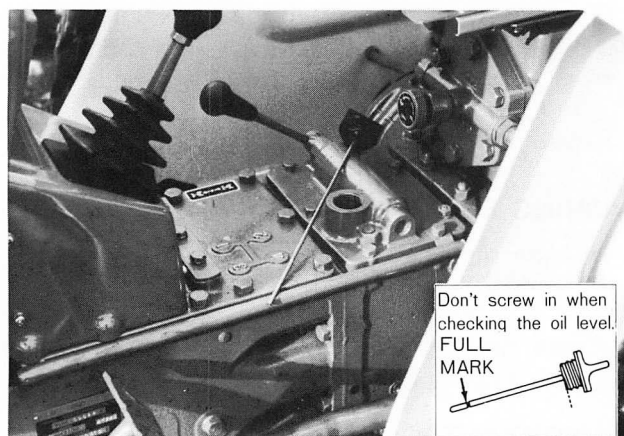

Figure 43 — Transmission, Rear Axle and Hydraulic System Oil Level Dipstick and Fill Plug
1. With the tractor standing level and the engine off, check the oil level with the dipstick, Figure 43.
2. Remove the filler plug, Figure 43, and fill with new oil of the type specified, page 28.